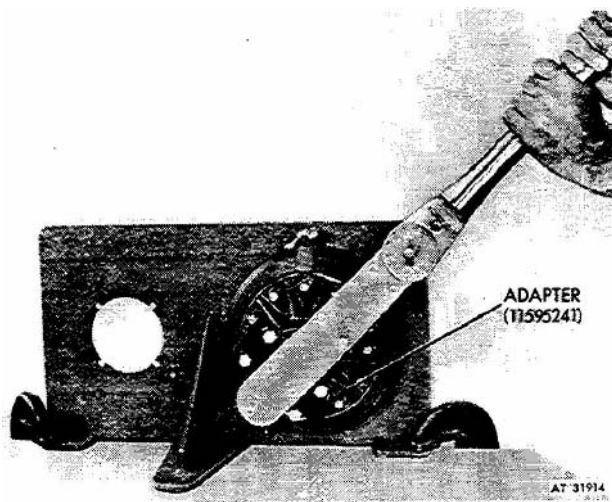

Figure 3-118. Checking new *equalizer assembly* running torque.
(23) Install components in housing (3) as outlined in (4) through (20) above.
(24) Remove housing (3) from fixture (11660105).
(25) Position thrust washers (15) and pinion gears (16) on spider (17). Position assembled spider between housings (3 and 18). Make sure index marks on housings are in alignment. Rotate gears as necessary to obtain proper alignment of pinion gears (16) and bevel gears (14). Secure housing (3) to housing (18) with screw (1) and lock washer (2). Tighten screws to 39 - 40 lbs-ft. torque and lockwire screws.
(26) Remove equalizer assembly from fixture (17660105).
(27) Prior to installing a new equalizer assembly, check equalizer assembly running torque. Install equalizer assembly in fixture (11660105) and insert propeller shaft (1, fig 3-88) in equalizer assembly. Secure adapter (11595241) and a suitable torque wrench to propeller shaft and check running torque by rotating adapter a minimum of three revolutions and monitoring torque wrench readings. Running torque should be a minimum of 400 **lbs-ft.** (fig 3-118).